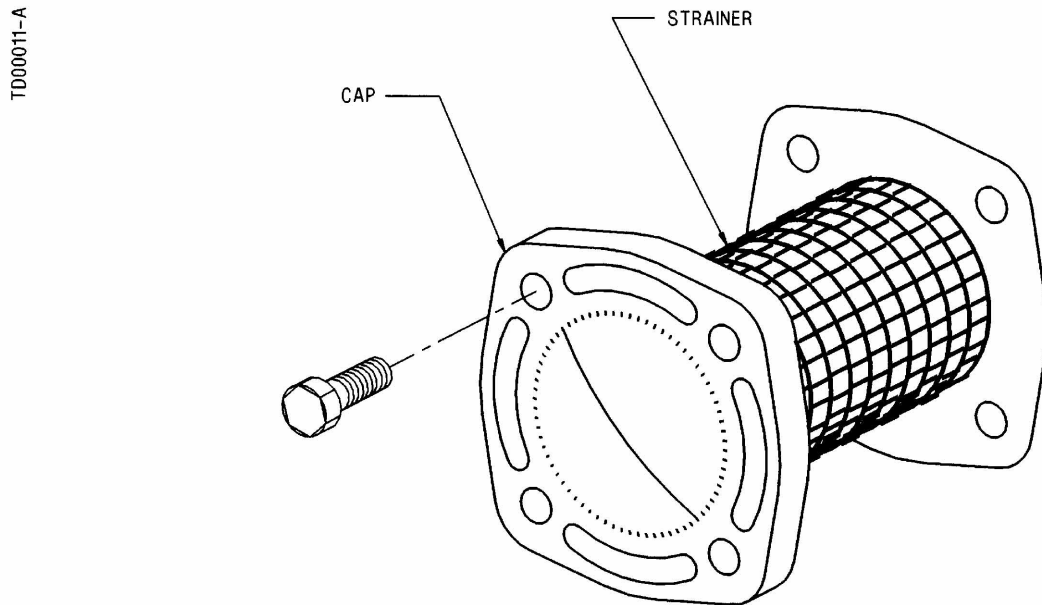

FIGURE 5-1. STRAINER ASSEMBLY. *The strainer should be cleaned as needed to remove any debris it has captured.*
- Remove the strainer for cleaning by unfastening the cap; see Figure 5-1. Place a container under the cap to catch the petroleum and sediment. Wash the screen in gasoline and dislodge lint and other foreign particles with compressed air. Check for leakage after reinstalling.